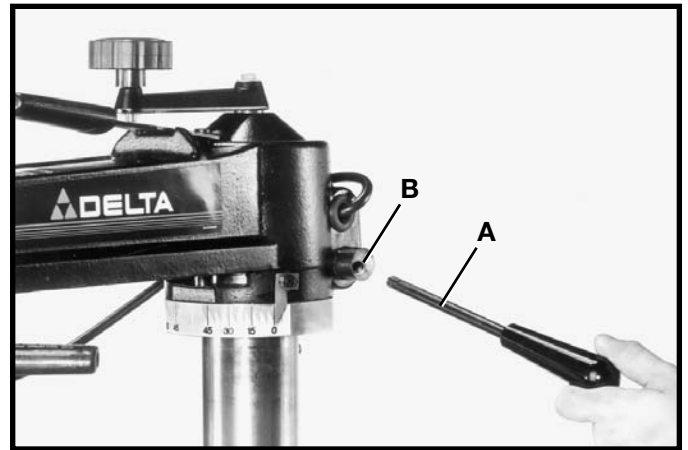

Fig. 15
1. Assemble track arm clamp lever (A) Fig. 15, by threading into clamp lock nut (B).